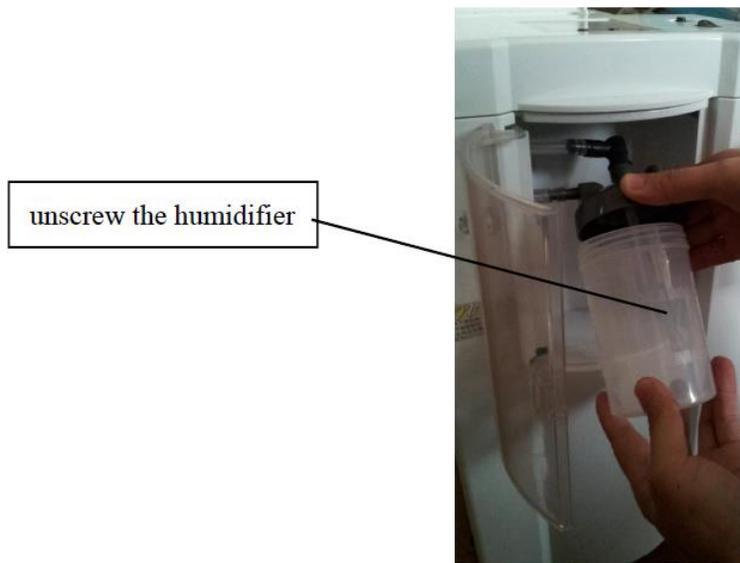

Figure 7
1) Open the transparent cover and unscrew the humidifier. (Figure 7)